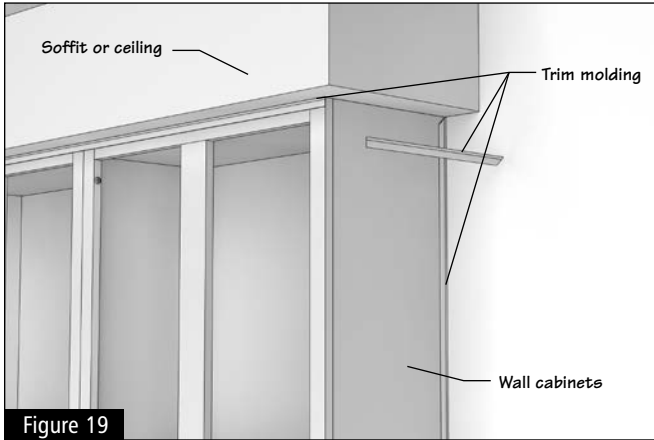

Figure 19
7.1 Trim molding is used to trim out cabinetry where cabinets meet an adjacent wall, soffit or ceiling. Carefully measure and cut to proper length. Use small finish nails or a pin nailer to attach where cabinet and wall meet. (Figure 19)